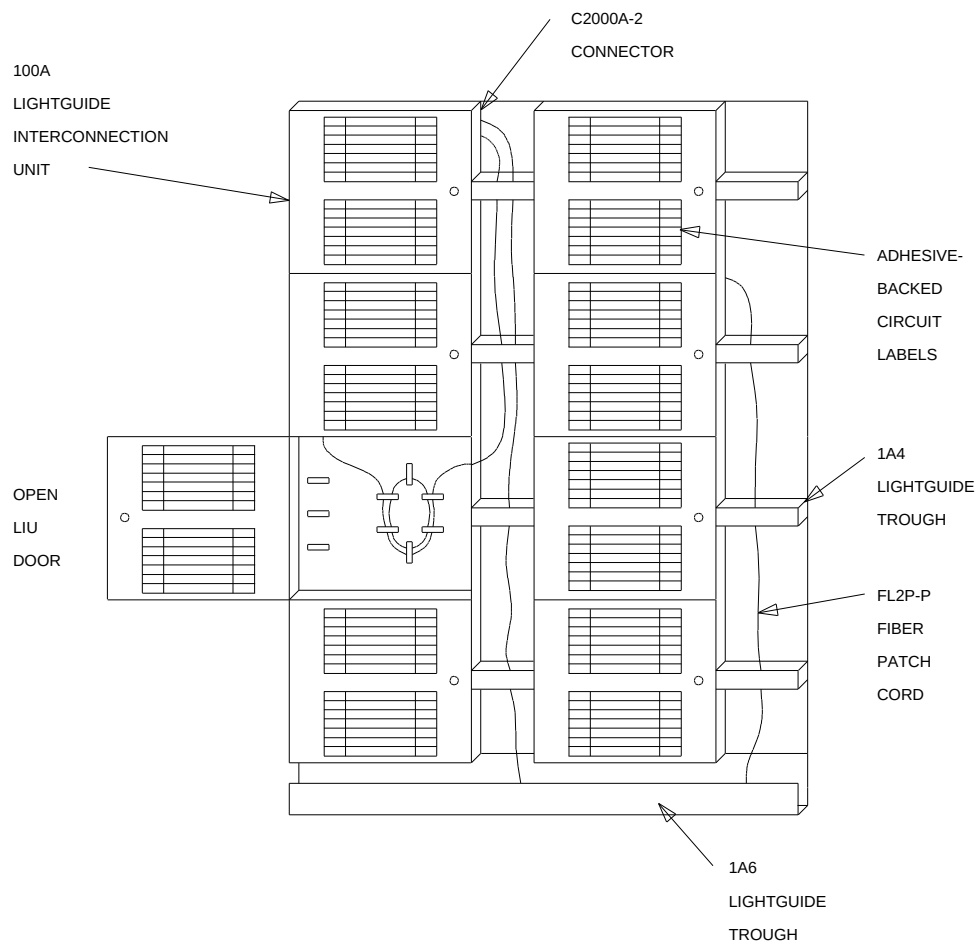
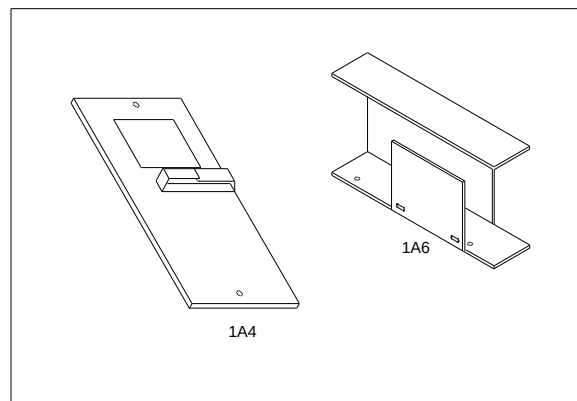

Figure E-5. Optical Cross-Connect Field
Figure E-10. 1A4 and 1A6 Lightguide Troughs
Optical cross-connects (shown in Figure E-5) consist of lightguide interconnect units (LIU) with lightguide troughs in between them. One LIU terminates the incoming cables and the other terminates the outgoing cables. A fiber optic patch cord or jumper is used to connect the circuits. Circuits can be rerouted the same as on 110- or 66-type connecting blocks, by moving the patch cord from one point on the cross-connect field to another.
Two types of troughs are used with optical cross-connect fields. The 1A4 lightguide trough secures single fiber optic jumpers routed between LIU columns, and the 1A6 lightguide trough is used at the bottom of a LIU column to prevent cable slack (Figure E-5). Figure E-10 shows the individual lightguide troughs.
1. At the optical cross-connect field (Figure E-5), locate the patch cord to be removed.
1. At the optical cross-connect field (Figure E-5), locate the connector couplings associated with the circuit to be added.